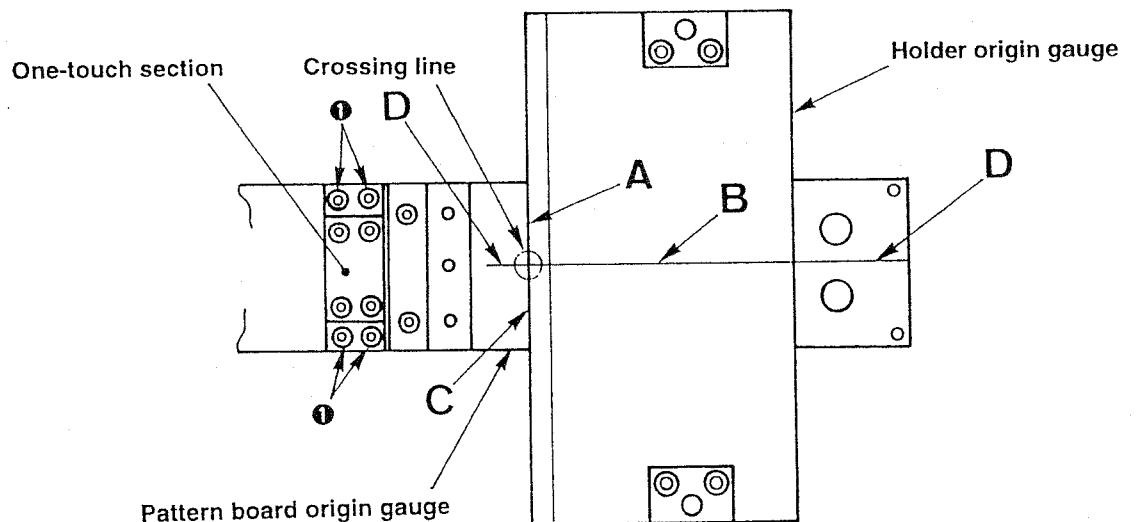
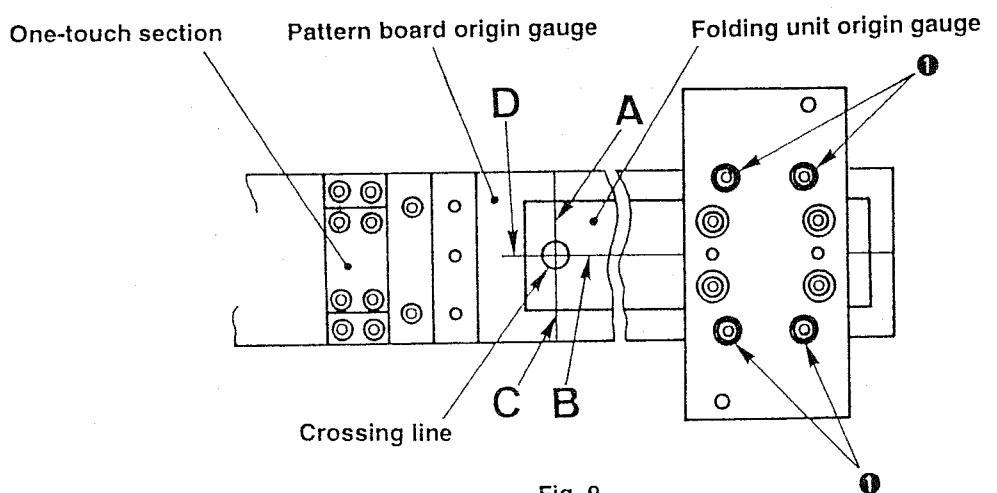

Fig. 8
Fig. 9
<p>2) Bring the holder origin gauge on the pattern board origin gauge under the folding position adjustment mode (). (Fig. 8)</p>
<p>3) Loosen screw ①, and determine the position of the one-touch section so that crossing lines A and B on the holder origin gauge are aligned with crossing lines C and D on the pattern board origin gauge. (Fig. 8)</p> <p>4) Enter to the step mode (), and bring the folding unit to the lowering position.</p> <p>5) Loosen screw ②, and determine the position of the folding unit installing plate so that crossing lines A and B on the folding unit origin gauge are aligned with crossing lines C and D on the pattern board origin gauge. (Fig. 9)</p> <p>6) Turn OFF the power to the machine.</p>